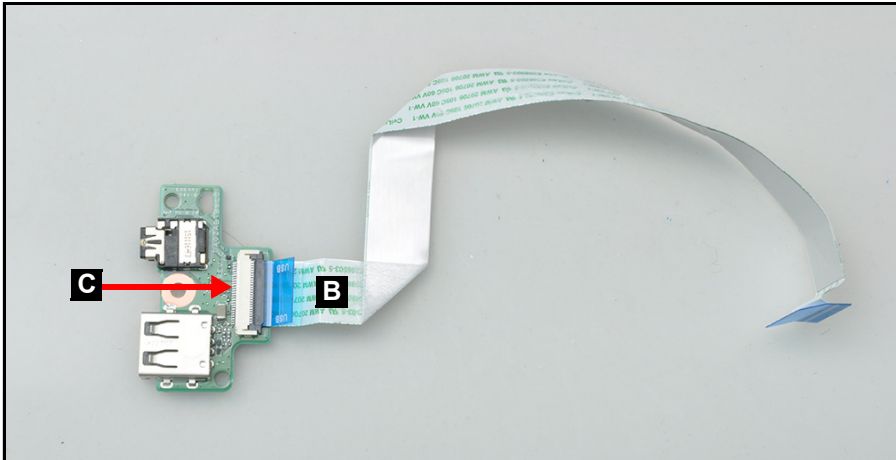

Figure 3-100. Replacing the I/O Board
1. Connect the I/O board FFC (B) to the the I/O board connector (C) (Figure 3-100).